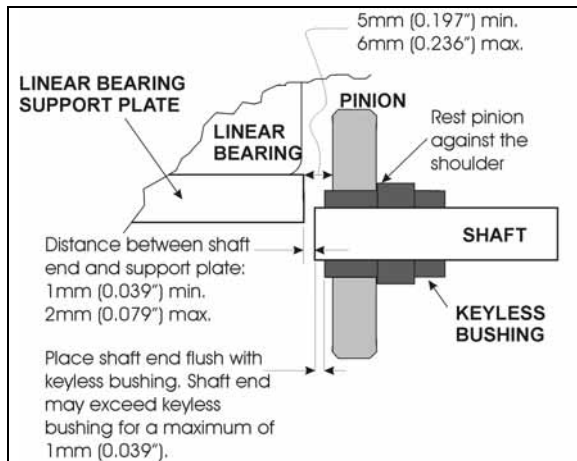

FIGURE 11: PINION AND KEYLESS BUSHING POSITIONING
3. Properly position the shaft end in relation to the linear bearing support plate (see FIGURE 11) and then tighten the locking collars to maintain the shaft in that position.
4. Position pinion and keyless bushing as shown on FIGURE 11 and tighten the